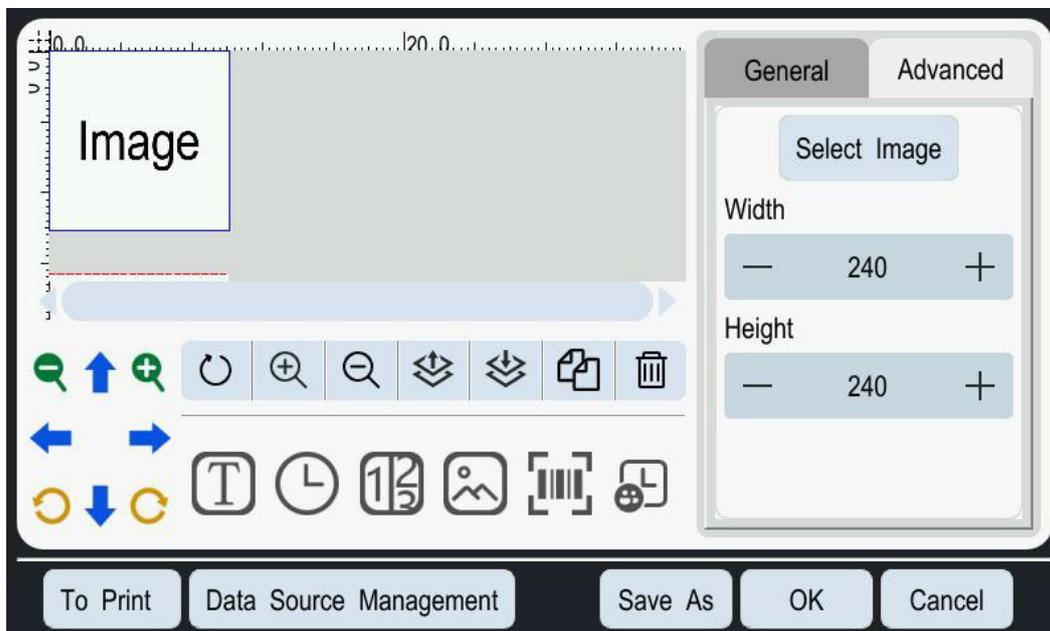

Figure 5-8: Image Editing Interface
1. To print an image, click the Image button . A default "image" item will appear in the preview area, as shown in Figure 5-8.